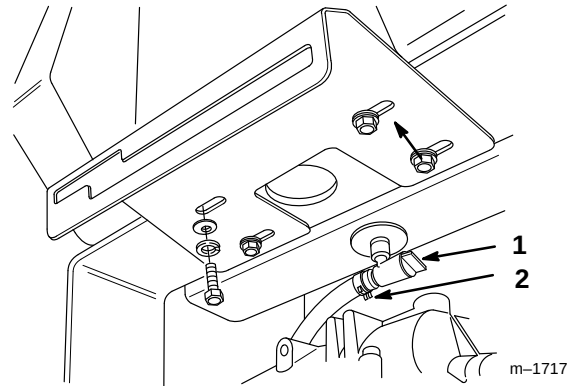

Figure 30
2. Close fuel shut-off valve at fuel tank (Fig. 30).
3. Squeeze the ends of the hose clamp together and slide it up the fuel line away from valve (Fig. 30).
4. Pull the fuel line off the valve (Fig. 30). Open fuel shut-off valve and allow gasoline to drain into a gas can or drain pan.
6. Open fuel shut-off valve at fuel tank (Fig. 30).